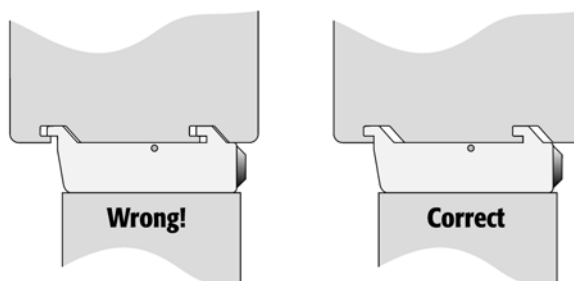

Figure 5. Attachment of Mounting Claws
- 1 Double check if the legs claws are correctly attached to the X-Crossrail (see Figure 5).
- 4 Double check if the Agitator clamps are correctly attached to the X Crossrail (see Figure 5, page 18).